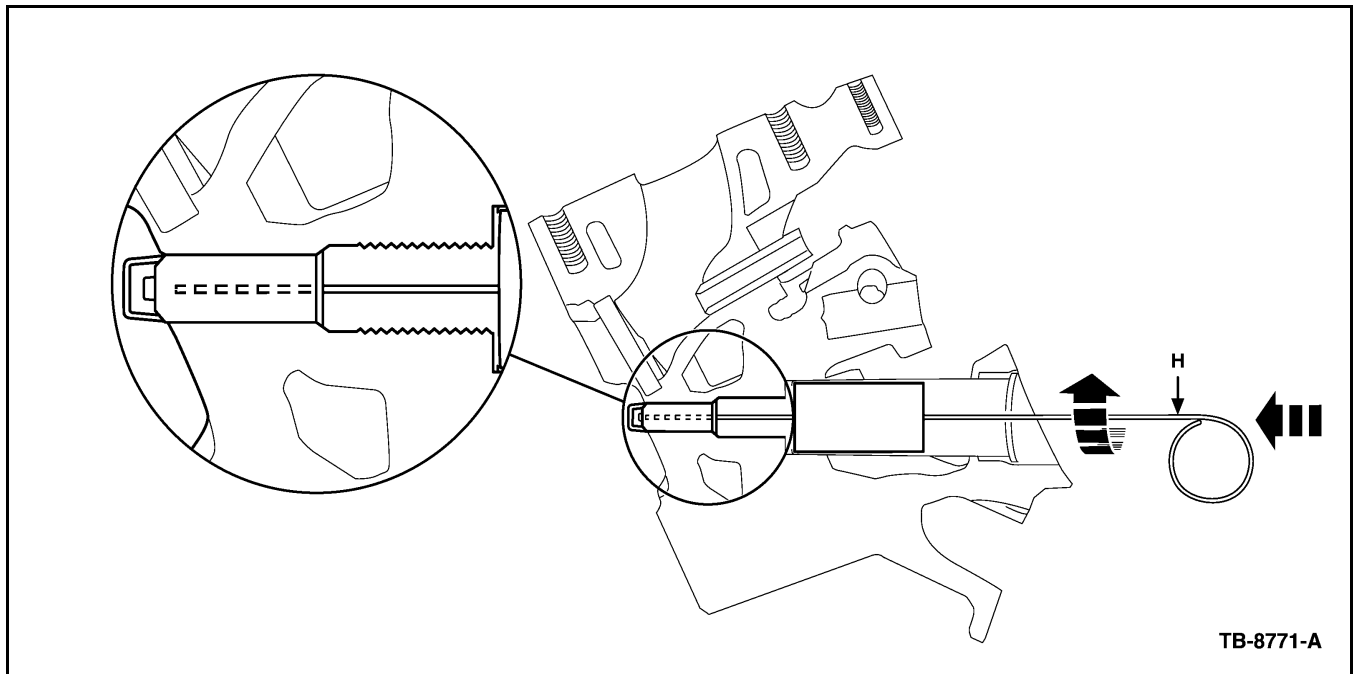

Figure 18 - Article 069-2008-1155
- Insert applicator into the porcelain and move applicator up and down 1/2" (13 mm) while turning to spread the Loctite® 638™ on the inside of the porcelain. (Figure 18).